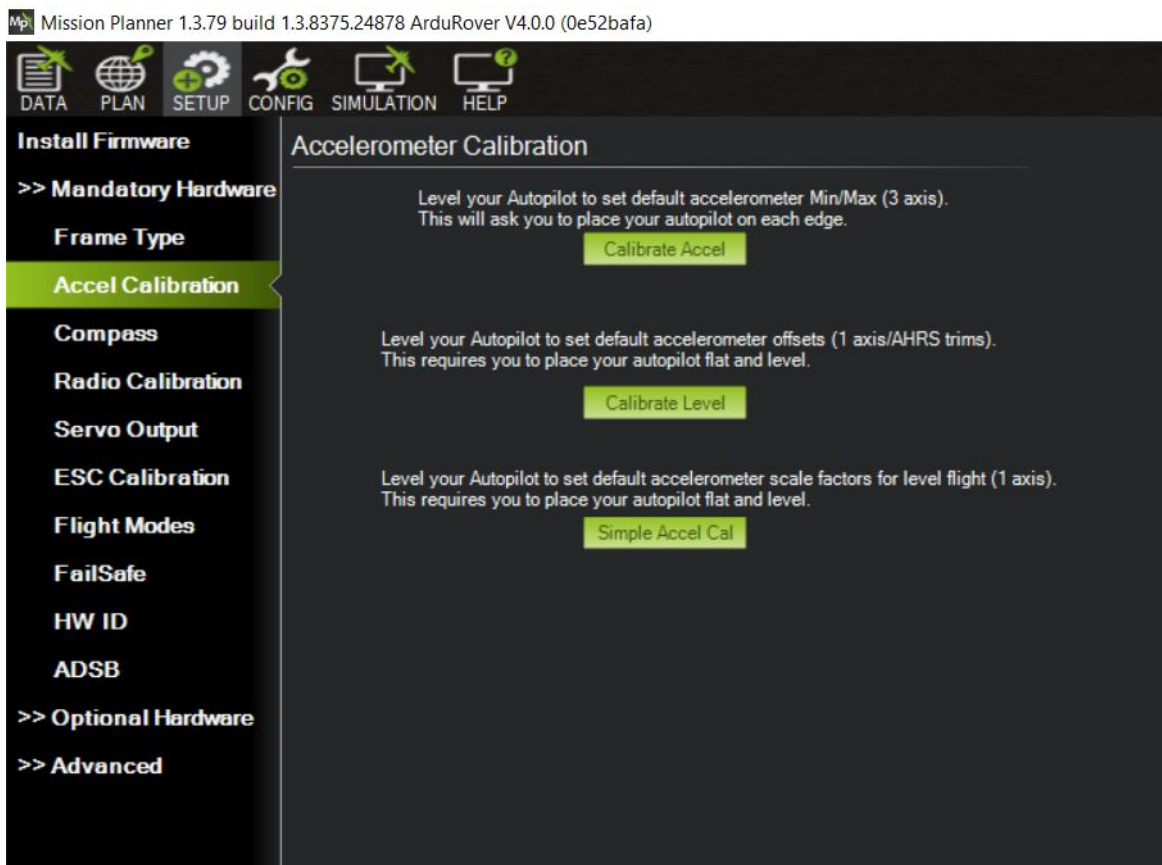

Figure 65: Accel Calibration
13. Select Calibration Level. (See Figure 65)